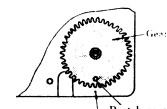

Fig. 8
- (1) Set dial pointer to "10" of the dial scale.
- (2) Set tuning gang shaft so that red mark appears as protuberance of the gear to starting point of the bracket, as illustrated in Fig. 8.
- (3) Insert gear to the shaft of tuning gang after setting protuberance of the gear to starting point of the bracket, as illustrated in Fig. 8.